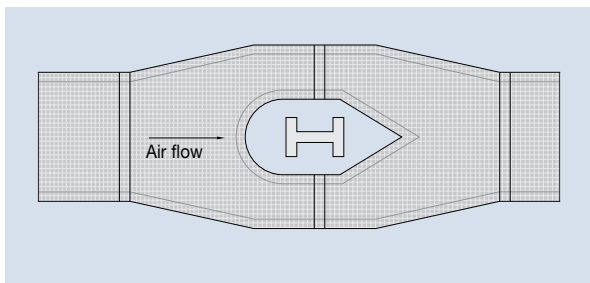

Figure 6.4 Accommodating Easements with Ductwork Sections
- where the area of the obstruction reduces the cross-sectional area of the ductwork section by > 20%, the shape of the section should be modified accordingly in order to maintain the original cross-sectional area (see Figure 6.4); and